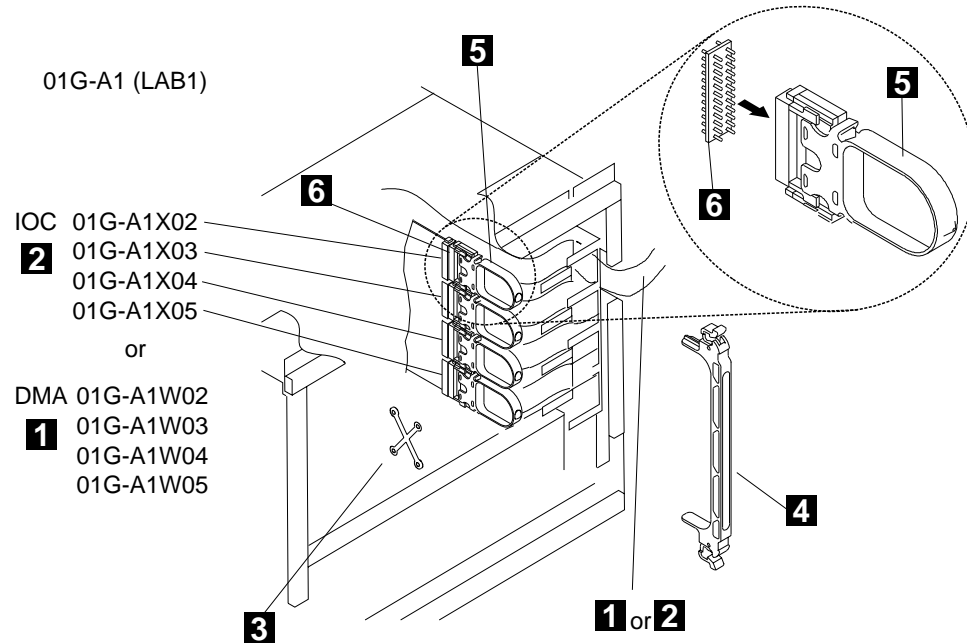

Figure 4-30. Plugging of the DMA and IOC Cables in LAB1
- Step 12. ____ Install short retainers **5** (PN 1953188) and four interposers **6** on the IOC bus cables **2** removed from 01G-A1 X02, X03, X04, and X05. Make sure the interposers are seated completely flush with the connectors on the cables as it takes considerable pressure to seat them properly (see Figure 4-30).
- Step 17. ____ Install short retainers **5** (PN 1953188) and four interposers **6** on the DMA bus cables. Make sure the interposers are seated completely flush with the connectors on the cables as it takes considerable pressure to seat them properly (see Figure 4-30).
- Step 19. ____ Clamp cables in raceways using retainers **3** (PN 0813519) see Figure 4-30.